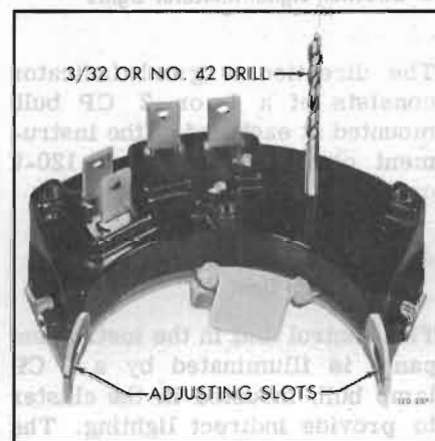

Figure 120-11—Adjusting Neutral Safety Switch
When the neutral safety portion of the switch is correctly timed, the back-up portion is properly timed automatically. Slotted mounting screw holes permit sidewise movement of the switch for proper timing. See Figure 120-11.
3. Attempt to insert a 3/32 or a No. 42 drill through gauging hole in switch body into inner hole in sliding part of switch. See Figure 120-11.